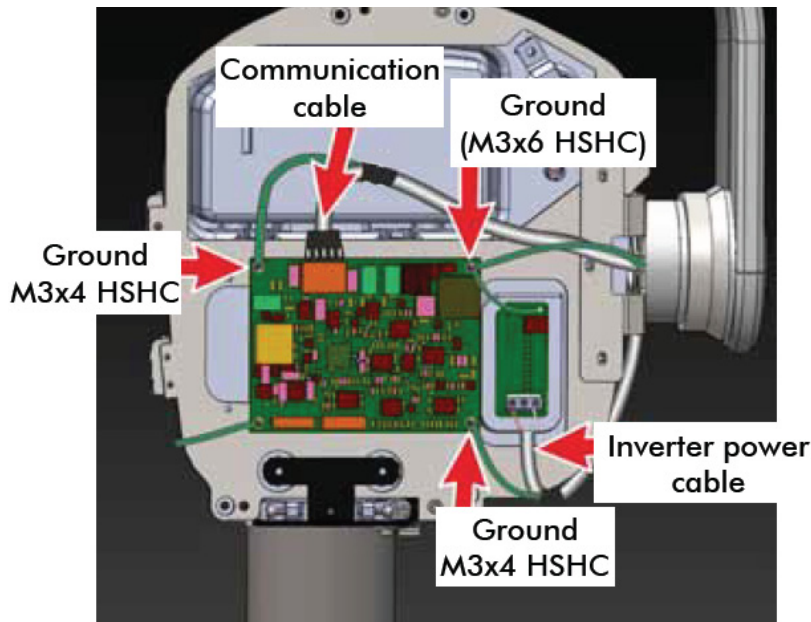

Figure 84
- Press the connector locking tab and pull the cable connector (communication cable) connected to J4 connector of the control board as shown in the Figure 84 .
- Disconnect the INV power cable from the sealing board 3 pin connector -pins 1 & 3 as shown in the Figure 84 (hold the connector firmly by hand while removing) using Jewel screw driver.
- Remove the screws used for GND wire connections for both cables at 3 corners of the Control board using 2.5mm allen key as shown in Figure 84 and put back the screws in its location.
- Route the INV power cable as shown in the Figure 84 and connect it to the sealing board 3 pin connector (Pin 1 & 3). Hold the connector firmly while tightening the terminal screws. Using a 2.5mm allen key connect the GND ring terminal of the INV cable to the nearest control board fixing screw(M3x4 HSHC) as shown in the Figure 84 .
- Route the communication cable and connect it to the J4 connector of the control board as shown in Figure 84 and using a 2.5mm allen key connect the GND ring terminal of the communication cable to the nearest control board fixing screw(M3x4 HSHC) as shown in the Figure 84 .
- Fix the scissor-arm grounding cable on the control board along with sealing board grounding cable with M3X6 Hex. Socket Head cap screw using 2.5mm Allen key as shown in Figure 84 .